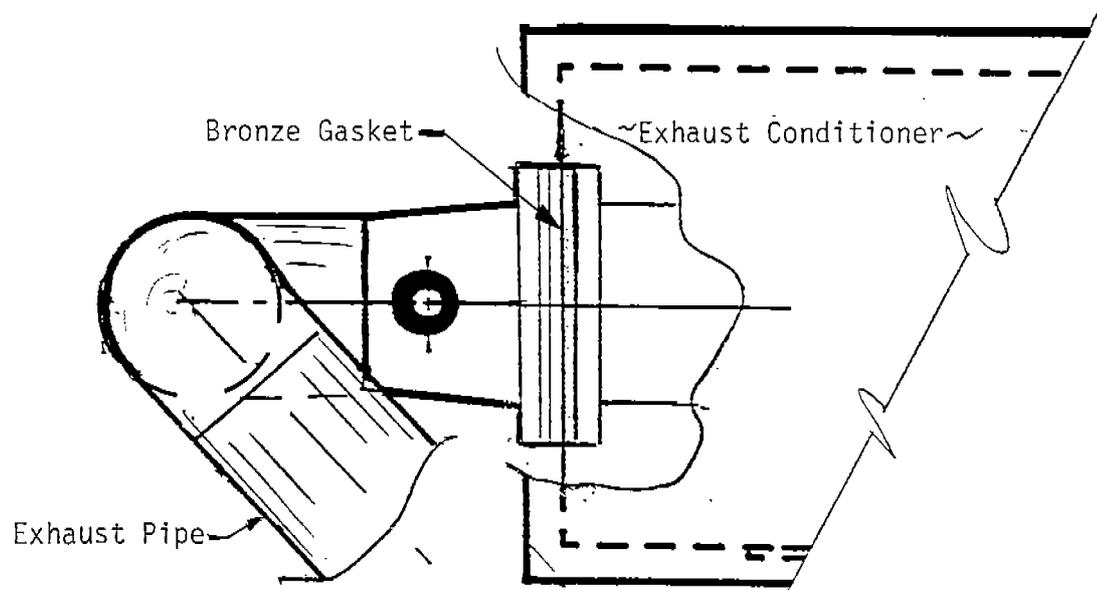

Figure 10. Gasket Between Exhaust Conditioner Flange and Scrubber Insert Flange.
18. ( ) A bronze gasket is installed between the flange of the exhaust conditioner and the flange of the scrubber insert as shown in Figure 10.